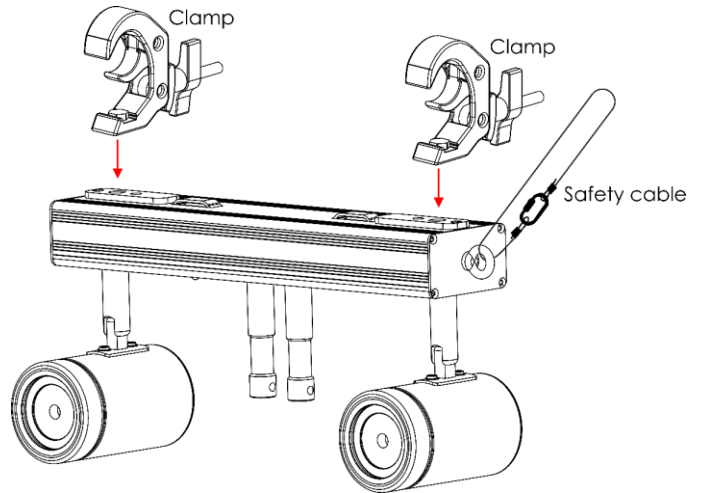

Fig. 06
- 01) Use 2 clamps to attach the device to the supporting structure, as shown in Fig. 06.
- 02) Secure the device with a secondary suspension, for example a safety cable. Make sure that the secondary suspension can hold 10 times the weight of the device. Put the safety cable through the **safety eye (05)**.